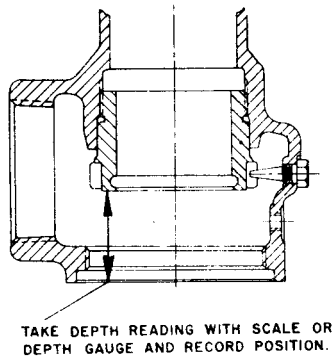

FIGURE 3
- a. Record position of Upper Adjusting Ring while ring pin is still engaged by measuring from bottom face of Ring to bottom face of Bonnet (see Figure 3).